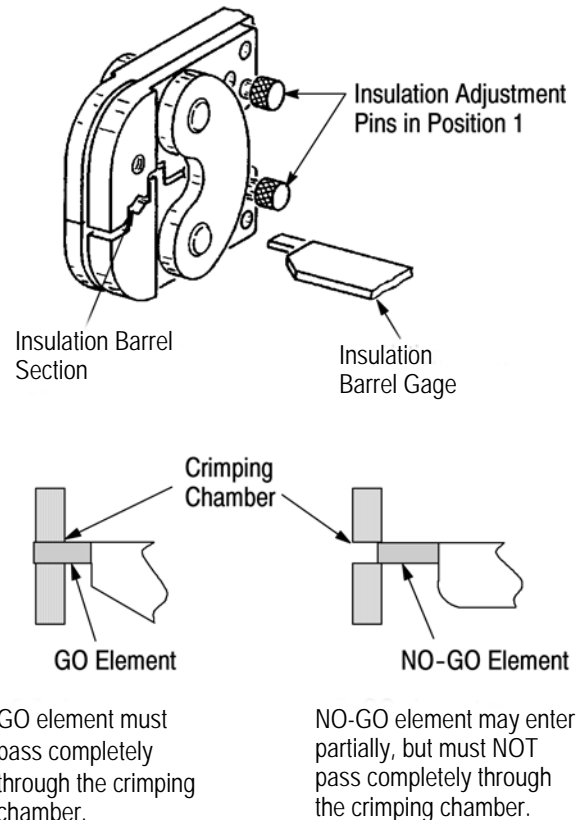

Figure 6
2. Align the GO element of the wire barrel crimp plug gage with the wire barrel section of the crimping chamber. Push element straight into the crimping chamber without using force. The GO element must pass completely through the crimping chamber, as shown in Figure 6, Detail A.
3. Align the NO-GO element and try to insert it straight into the same crimping chamber. The NO--GO element may start entry, but must not pass completely through the crimping chamber. See Figure 6, Detail A.
5. Check the insulation barrel section of the crimping chamber using the insulation crimp plug gage in the same manner as in Steps 2 and 3. See Figure 6, Detail B.